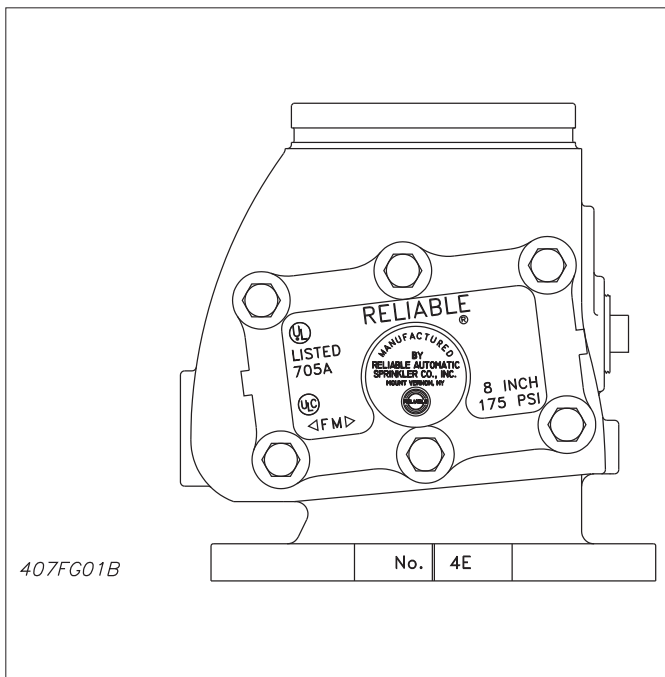

Figure 1
- US Standard Flanged Inlet and Grooved Outlet (Fig.1)